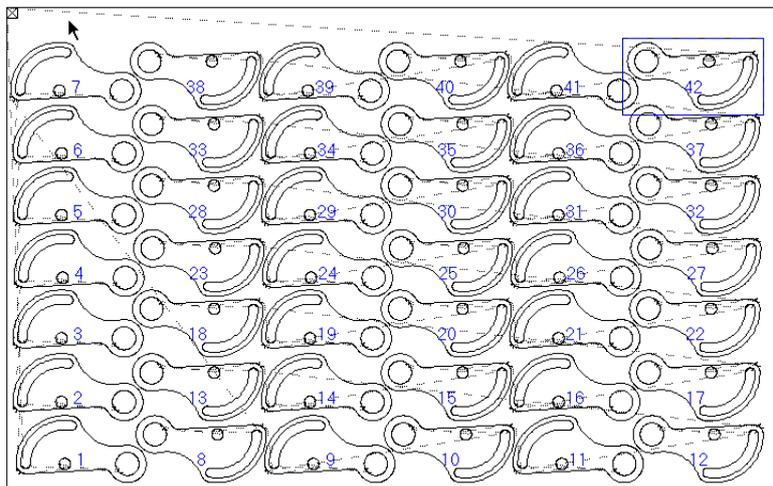

Figure 2-4
- (4) Successively select parts along Y axis direction, and the array mode is “X Flipped”, thus the final array result can be got as shown in Figure 2-4.